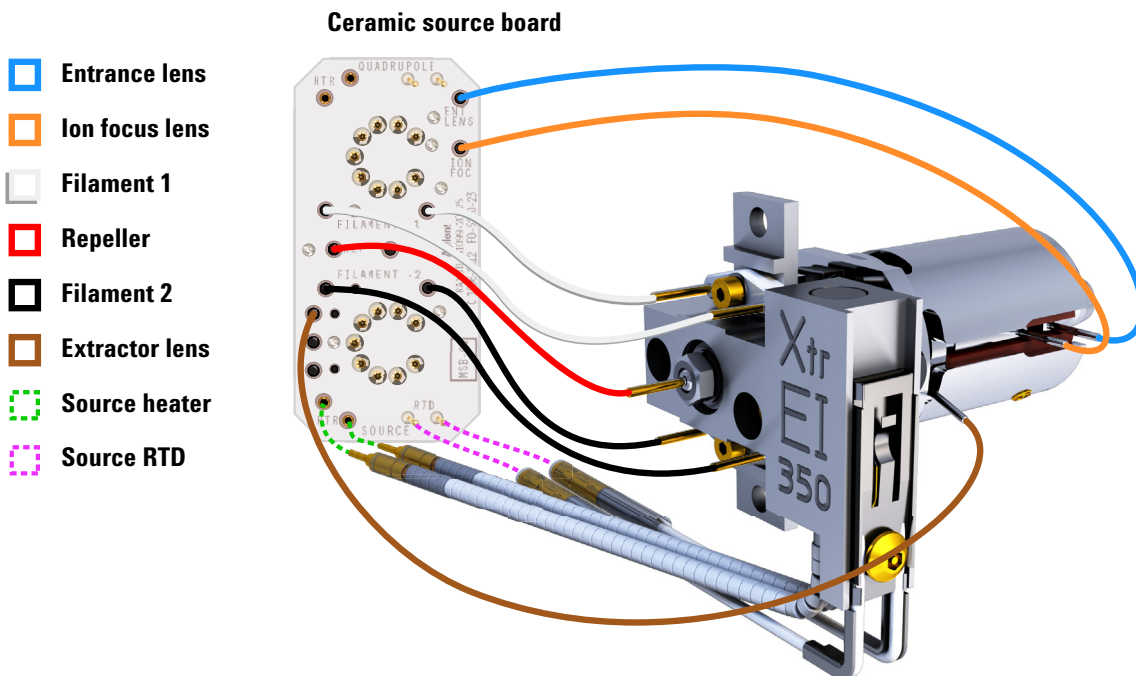

Figure 63 Wiring for the EI XTR Source
- 1 Use tweezers or needle nose pliers to connect/disconnect the ceramic source board wire leads at the source connectors. (See **Figure 63.**)